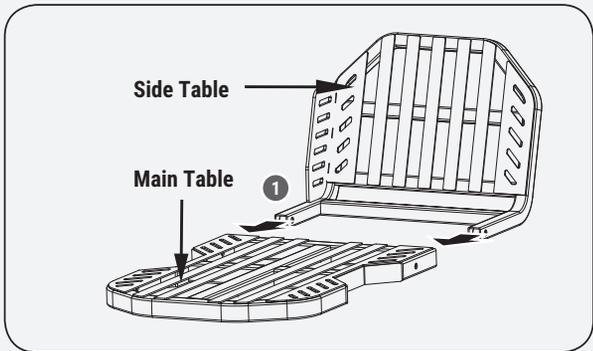

Figure 20a
1. Assemble the side table and the main table together to ensure that the hole positions at the connection are aligned. (See **Figure 20a**, illustration 1.)